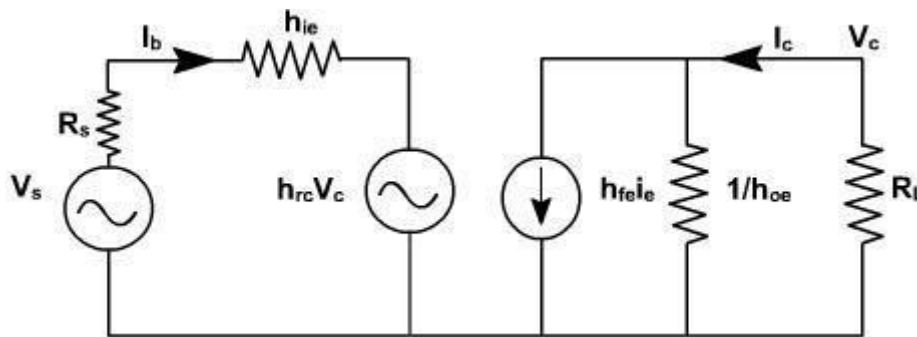

Fig 1.8
**Fig 1.8** shows the CE amplifier equivalent circuit in terms of h-parameters. Since  $1/h_{oe}$  in parallel with  $R_L$  is approximately equal to  $R_L$  if  $1/h_{oe} \gg R_L$  then  $h_{oe}$  may be neglected. Under these conditions.